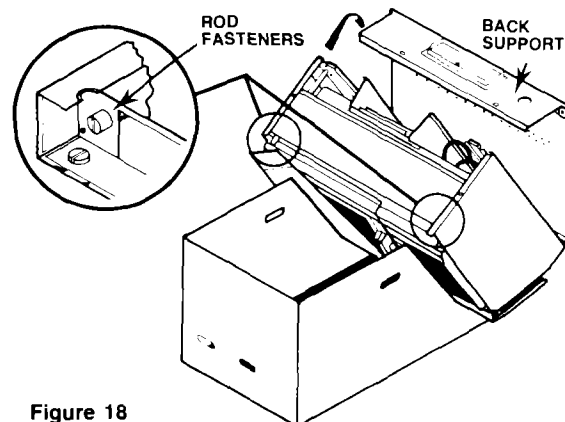

Figure 18
7. Remove back support by rotating with a flat blade screwdriver the two (2) rod fasteners a quarter turn counter clockwise until slots in rods are vertical. Slots for turning rod fasteners are the rods located in the two upper corners in front of the oven. (See figure 18.)